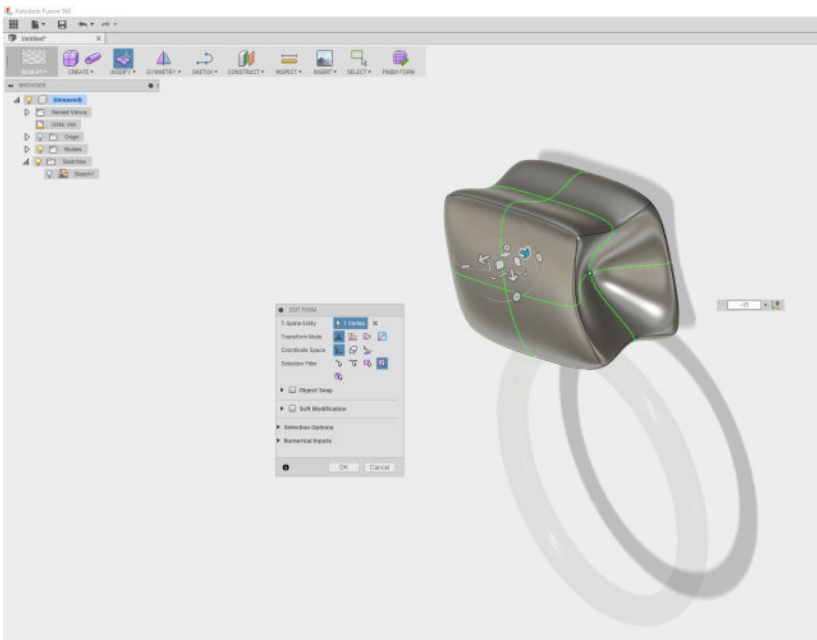

Figure 11-18. Within the Edit Form option, a small intersection at the right was selected and dragged inward
23. Click the intersection point between all four faces on the righthand side of the cube. Drag that point inward as shown in Figure 11-18.